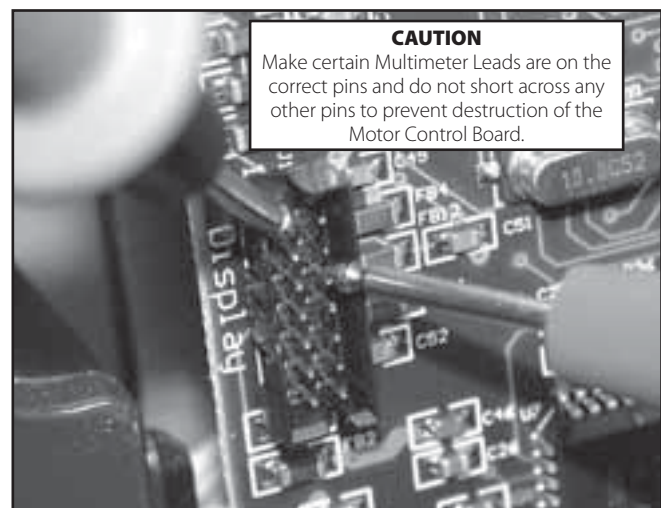

FIGURE 5.30
7. Connect the Red (+) Multimeter Lead to Pin 6 and the Black (-) Lead to Pin 1 on the Motor Control Board "Display" Connector. See Figure 5.30 reading on Multimeter should be 24 VDC.